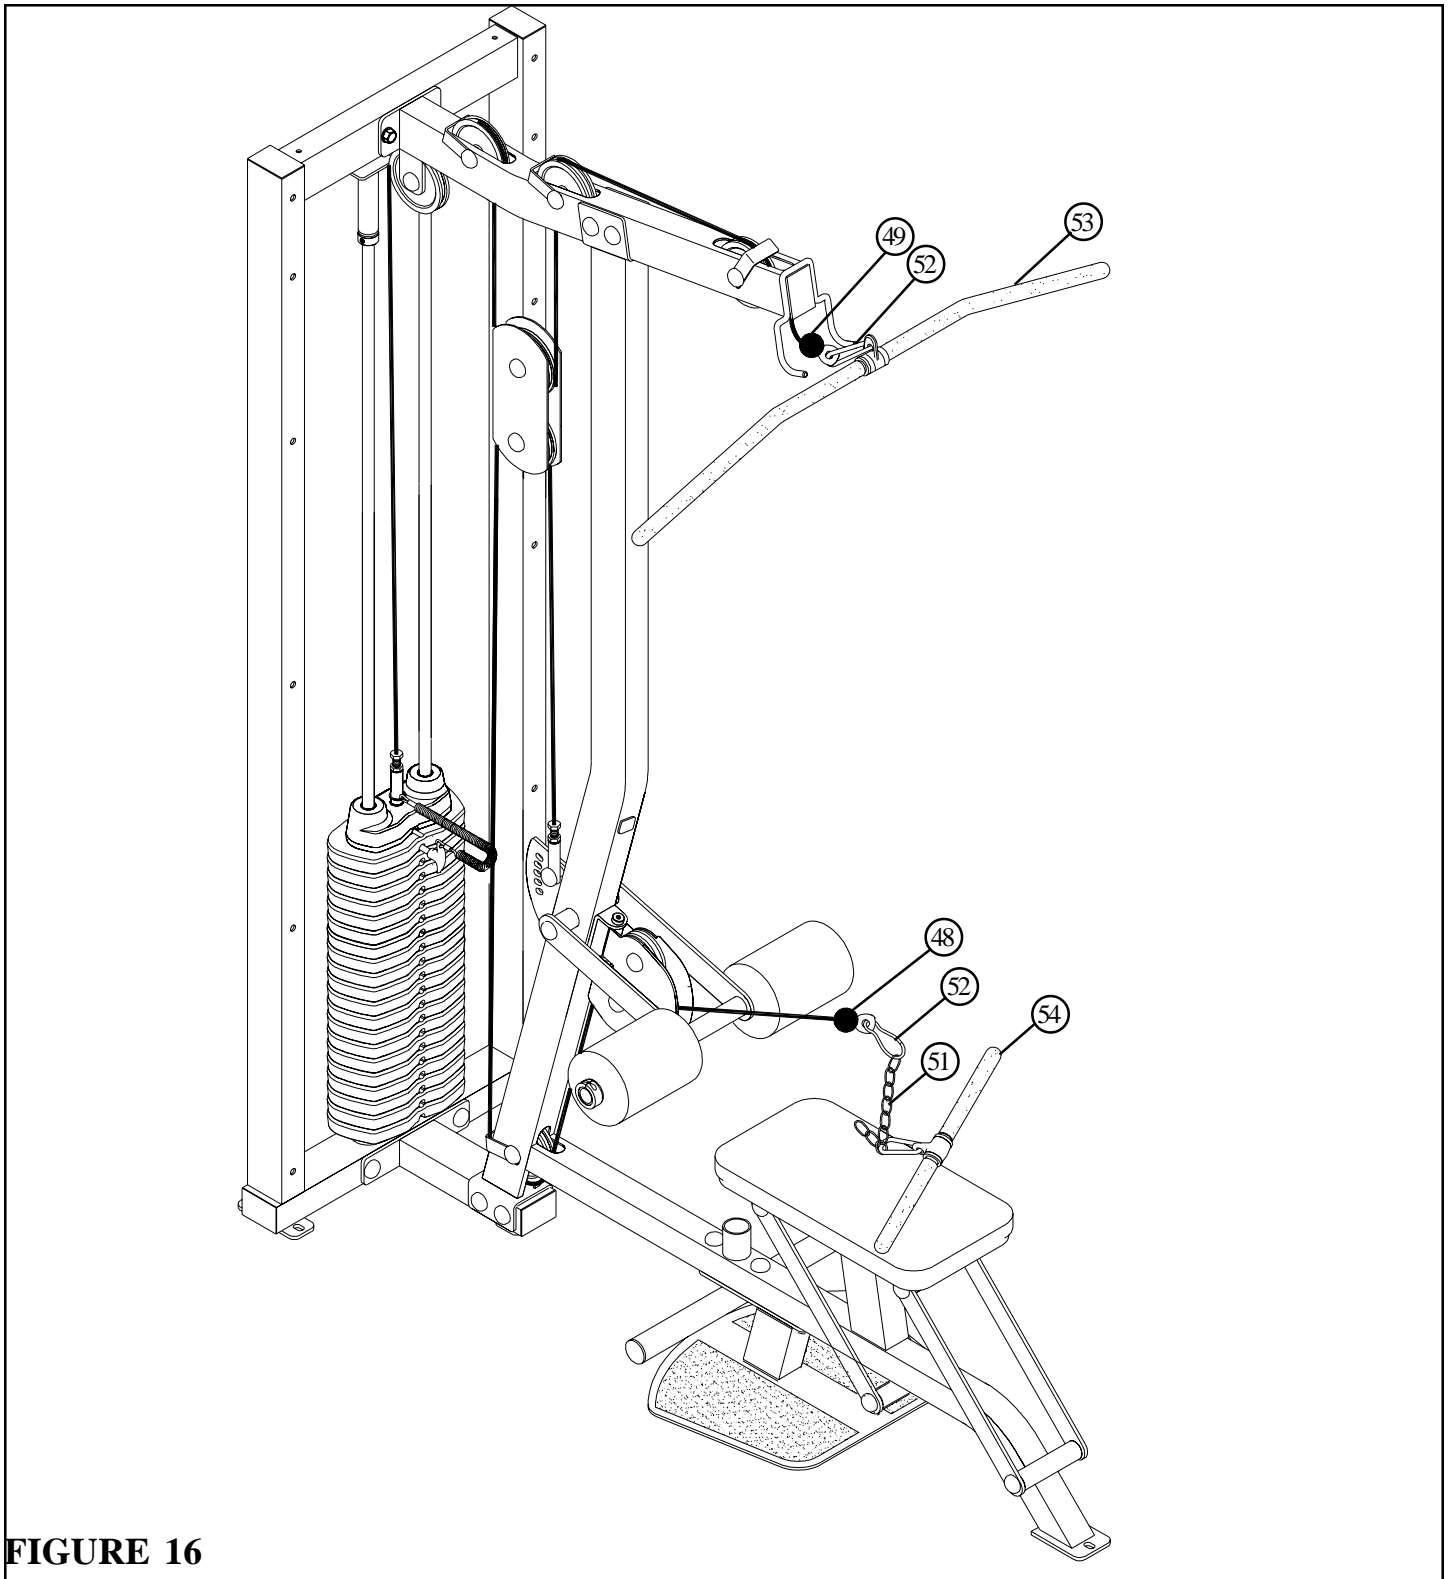

FIGURE 16
- Assemble the LOW ROW BAR (54) to the ROW CABLE (48) using two SNAPLINKS (52) and one 12-LINK CHAIN (51) as shown in FIGURE 16.
- Assemble the LAT BAR (53) to the LAT CABLE (49) using one SNAPLINK (52) as shown in FIGURE 16.